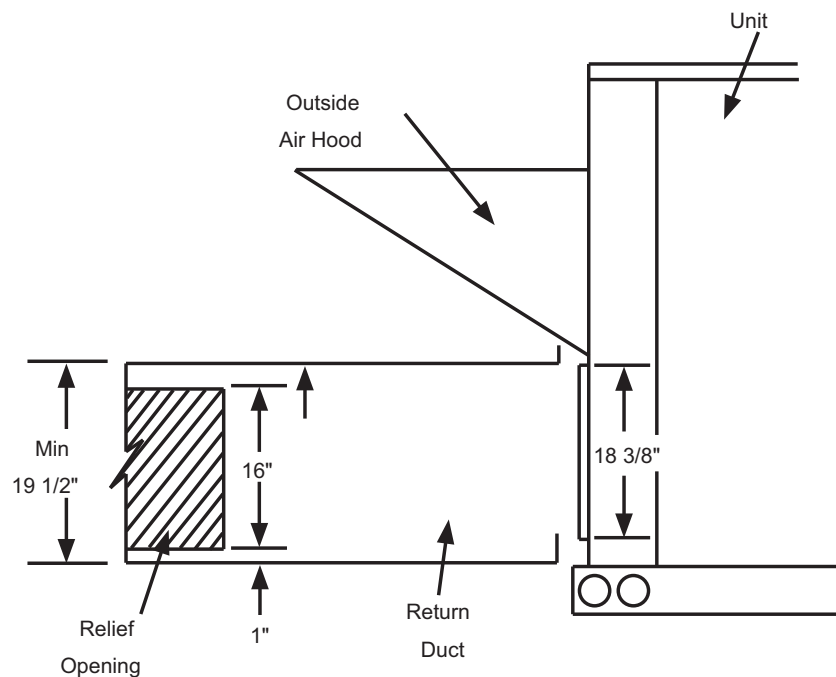

Fig. 35 — Relief Damper
1. Install the field provided horizontal ductwork onto the unit. Duct height must be at least 19-1/2 in. high, however the duct can be no taller than the top of the relief opening in the bottom panel, or airflow into the outside air hood will be restricted. (See Fig. 35.)
2. Cut a 16 in. x 36 in. opening in the return duct for the relief damper. (See Fig. 35).